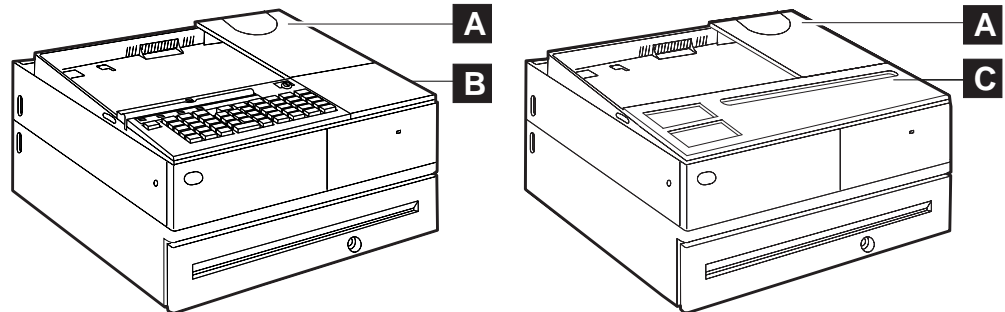

Figure 36. Location of installed fillers
1. Place the display filler ( **A** in Figure 36) on the system unit. *Do not* remove the knockout section.
- a. Place the keyboard filler panel ( **B** in Figure 36) beside the keyboard.
3. If you are using a touch screen and therefore are not using a keyboard, place the keyboard-replacement filler panel ( **C** in Figure 36) at the front of the unit. Hook the foot of the keyboard-replacement filler panel into the holes, and snap the front of the filler panel into place.